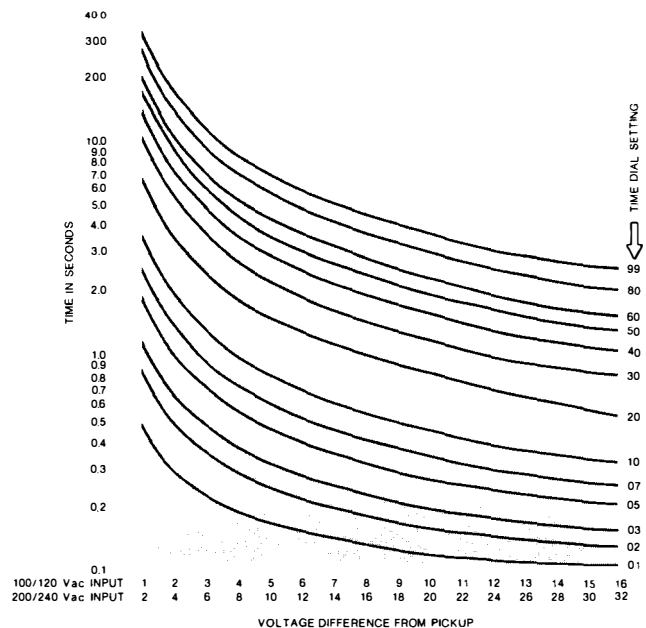

FIGURE 4. OVERVOLTAGE INVERSE TIME CHARACTERISTIC CURVES
- b. Selection of a particular response curve by the front panel TIME DELAY over the range of 01 to 99 ($\pm 5\%$ or 25 mSec, whichever is greater) (Reference Figure 4.)